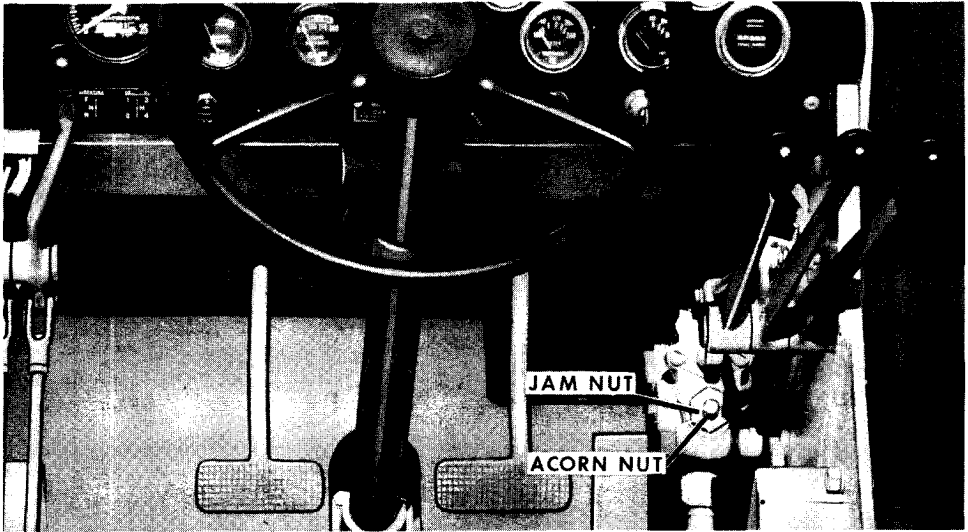

Figure 71
A. Remove the acorn nut from the relief valve and loosen the jam nut, Figure 71.